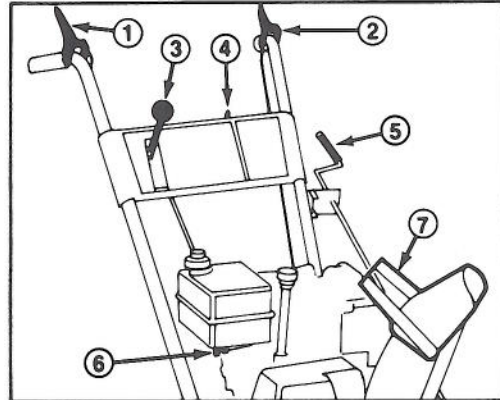

Figure 13
Auger Drive Control (Fig. 13) — Control has two positions: ENGAGE and DISENGAGE. To engage auger and impeller, compress lever against right handle grip. To disengage, release lever.
Traction Control (Fig. 13) — To achieve traction, lever must be compressed against left handle grip. To stop traction, release lever.
Speed Selector (Fig. 13) — The control has four positions: reverse, 1, 2 and 3. To change speeds, move gear shift to position desired. Lever will lock in notch at each speed selection. Use positions 1, 2, and 3 depending on snow conditions.
Ignition Switch (Fig. 13) — Switch has two positions: ON and OFF. Rotate key to ON before starting engine with the recoil starter. To stop engine, rotate key to OFF.
Fuel Shut-Off Valve (Fig. 13) — Valve is located under fuel tank. Close valve to stop fuel flow from fuel tank and open valve to allow fuel to flow to the carburetor. Close valve when snowthrower is not used.
Discharge Chute Control (Fig. 13) — Rotate discharge chute control clockwise to move discharge chute to the left and counterclockwise to move chute to the right.
Chute Deflector Handle (Fig. 13) — Deflector handle is on top of discharge chute and it is used to control height of the snow stream.
3. Open fuel shut-off valve below fuel tank (Fig. 13).
5. Rotate ignition key to ON (Fig. 13).
1. Release traction and auger drive control (Fig. 13).